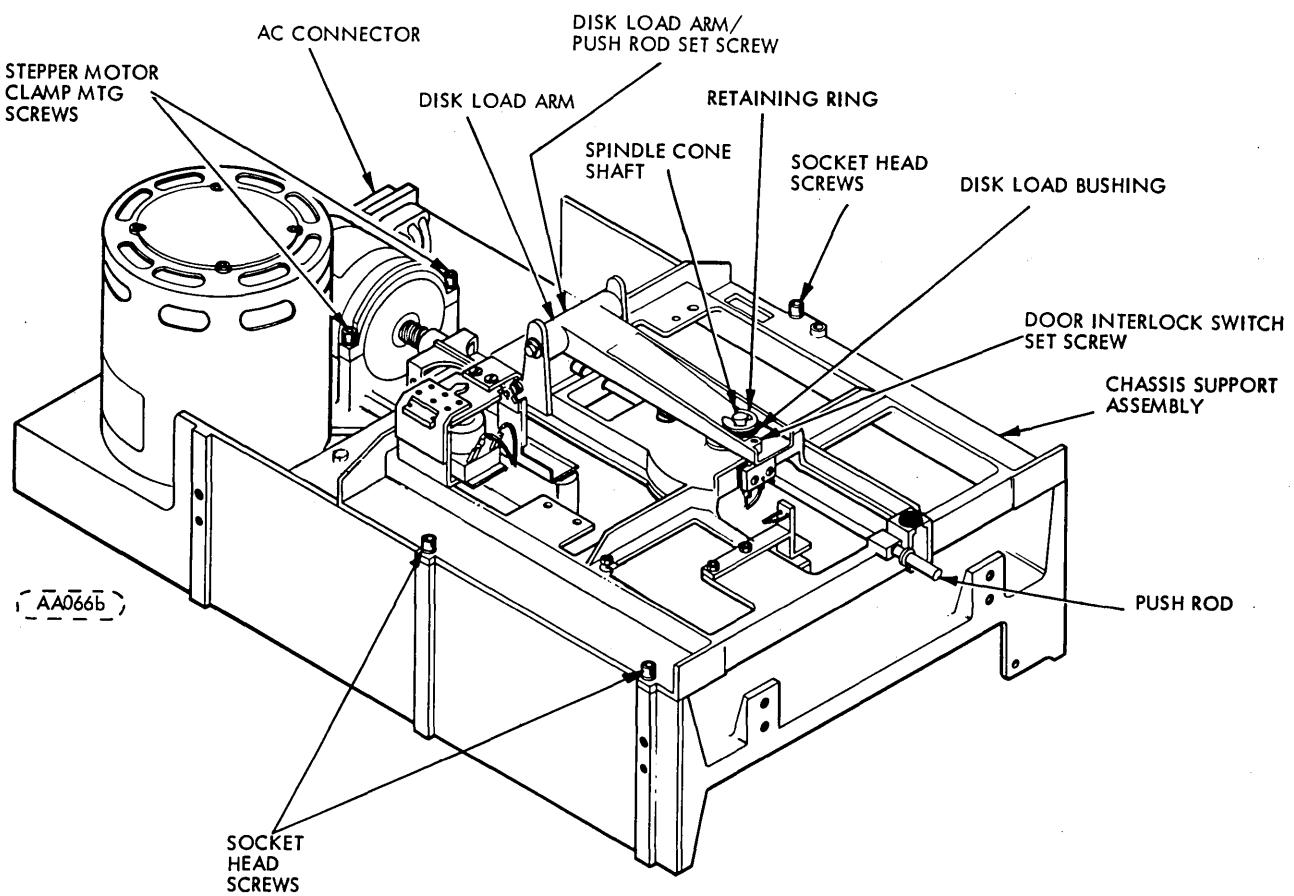
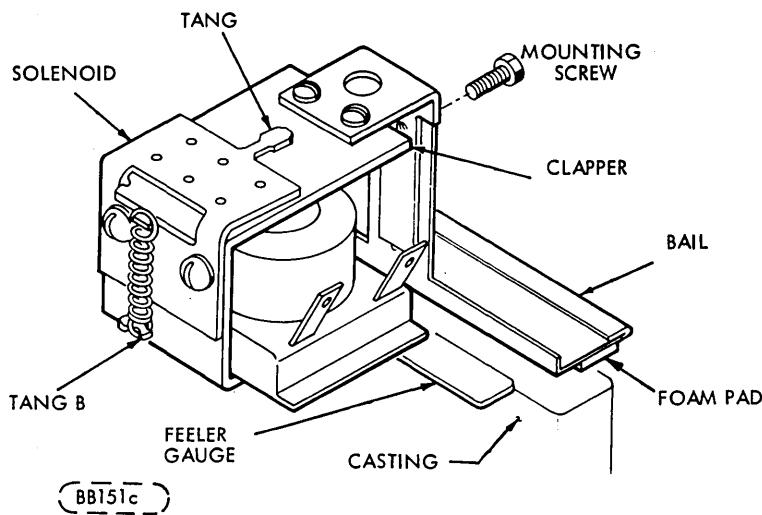

Figure 6-9. Chassis Base Assembly
Figure 6-10. Disk Load Solenoid
- h. If not in alignment, loosen the stepper motor clamp mounting screws to where a gap exists between the clamp and casting (see Figure 6-9) and slowly rotate the stepper motor to adjust the amplitude until the amplitude of both lobes is the same, that is, the difference between the bottoms of both lobes is less than 5mV.
This procedure must be performed whenever chassis support (Figure 6-9) is removed and replaced.
- a. With front panel door closed, verify that a gap exists between the retaining ring and the disk load bushing of approximately 0.030 inch (0.762mm) (refer to Fig. 6-9). Perform steps b and c if out of adjustment.
- c. Adjust disk load arm set screw (Figure 6-9) until gap is approximately 0.030 in. (0.762mm), with door closed.
- b. With door closed, adjust set-screw at end of disk load arm (Figure 6-9) while holding door closed against metal stop. Adjust set-screw until micro-switch is almost adjusted flush to top of switch case. This ensures that as the nylon tips on the push-rod wear down, the switch will still close.
- c. Loosen mounting screw on bail (Figure 6-10).
- a. Loosen chassis support assembly (Figure 6-9).
- f. Secure socket head screws (Figure 6-9) and again recheck steps "c" through "e".
- b. To adjust, loosen the two hex-head screws holding the sensor mount in place. With the front panel door open, push down on the disk load arm (Figure 6-9) to insure that the disk is in the loaded position (Figure 6-10). At the same time, grasp the end of the envelope and move from side-to-side, and forward and backward while observing the WRITE PROTECT signal at U30 pin 14/R82-East. Adjust the mount until the WRITE PROTECT signal is present for any position of the envelope.
- c. Remove four (4) socket head screws securing chassis support (Figure 6-9).
- a. Place the tapered end of a flat head screw driver between Tang A and solenoid clapper. (See Figure 6-10).